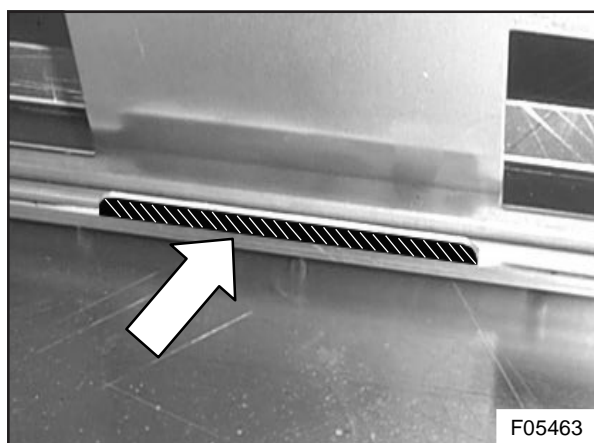

Figure 5 : Bottom rail lip needs cutting back to accept new assembly
6. Modify the bottom rail of the base plate by cutting back the lip shown in Figure 5 with an angle grinder.